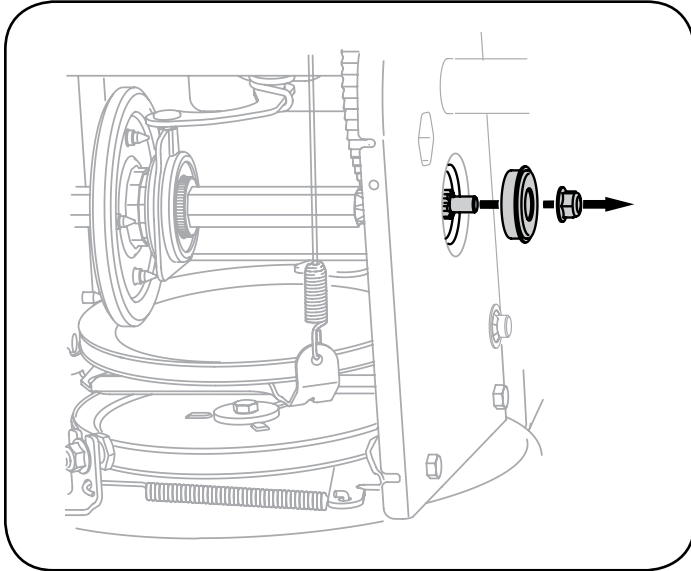

Figure 60
6. Carefully remove the hex nut and washer which secures the hex shaft to the snow blower frame and lightly tap the shaft's end to dislodge the ball bearing from the right side of the frame. See Figure 60.